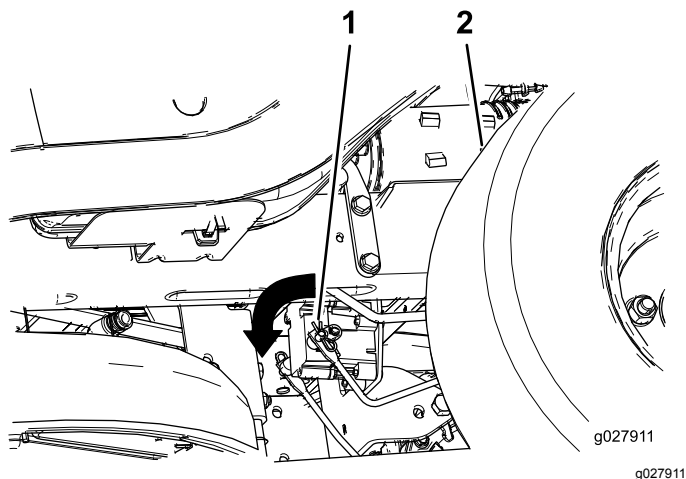

Figure 54
2. Locate the shaft on the electric brake where the brake link arms are connected (Figure 54).